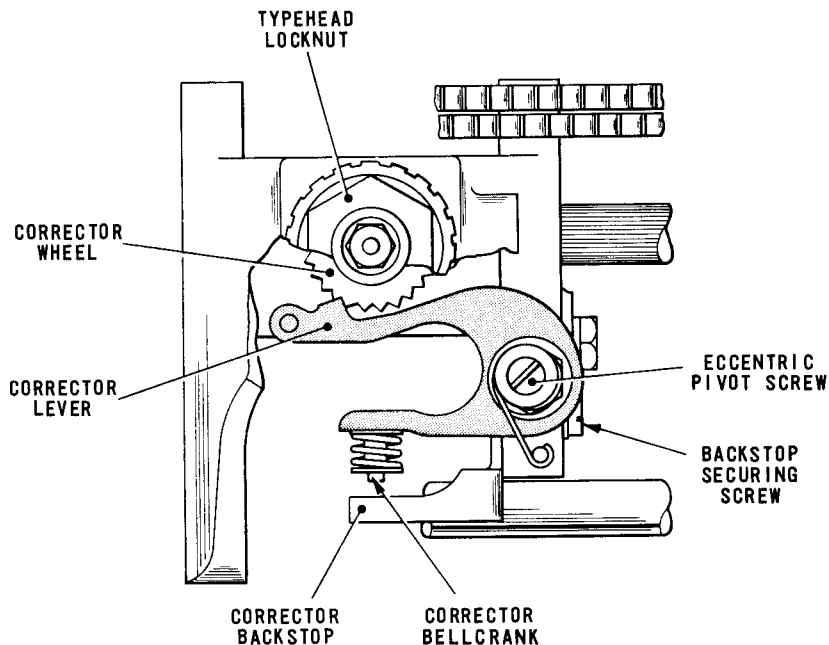

Fig. 4.12 TYPEHEAD CORRECTOR MECHANISM
- 17.1 Press the corrector lever, Fig.4.12, into full engagement with the corrector wheel and check that the type in the printing position is parallel to the rear edge of the typehead unit casting.